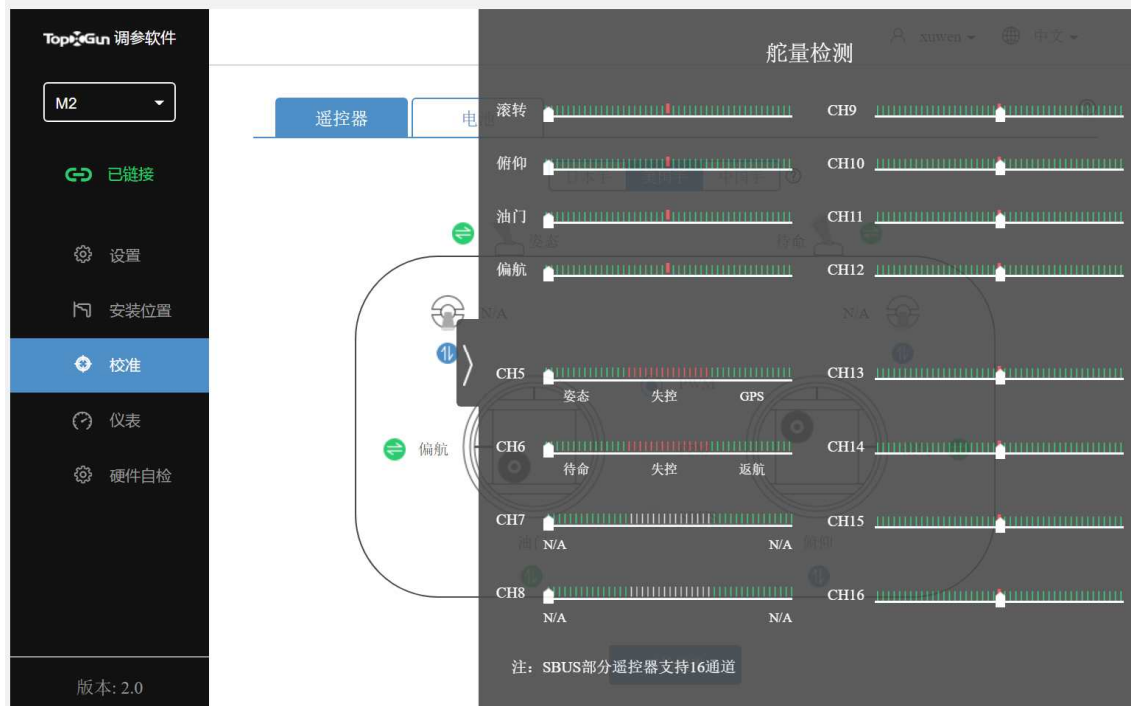

Figure 2-6 Remote Controller Calibration
Step 4. Set the remote controller input method and calibrate it, as shown in Figure 2-5 and Figure 2-6.